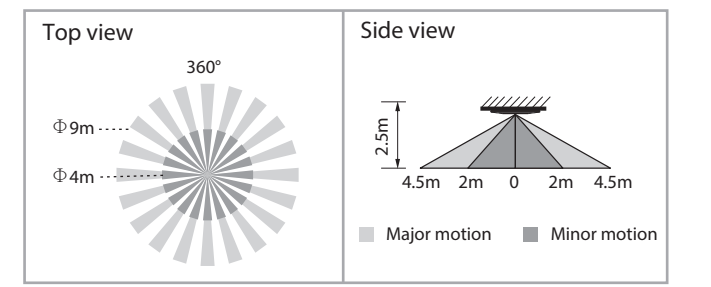

FIG.2
- 3.1.1 Sensor installation height is 2 to 5 metres. For optimal detection install at 2.5m height, which provides a 9m detection range and 360° detection angle (see FIG.2).